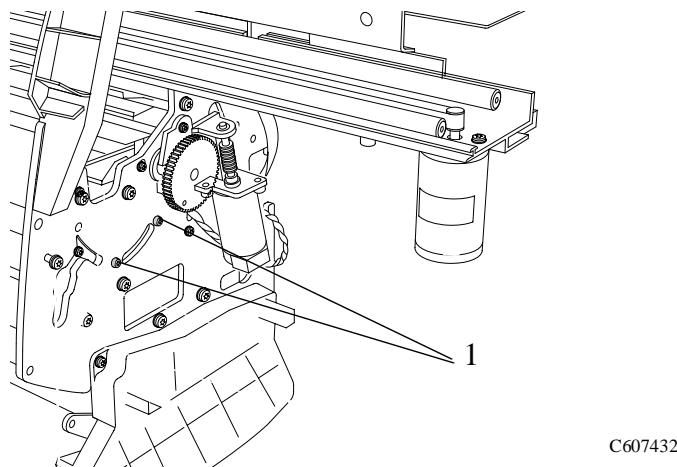

Figure 79: Right Hand Center Guide Screws
4. Remove the two T-15 screws from the right hand side plate securing the right side of the center guide (refer to Figure 79).